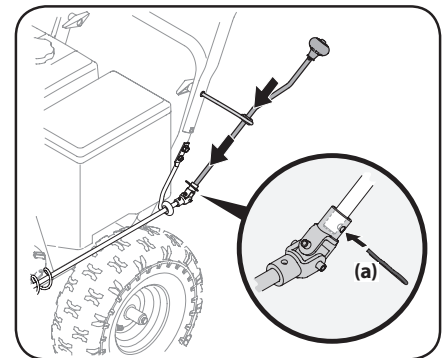

Figure 2-13
2. Insert unattached chute directional control assembly into eye bolt on left side of handle assembly. See Figure 2-13.
3. Line up holes in the end of unattached chute directional control assembly with holes in U-joint attached to lower chute directional control assembly. Insert cotter pin (a). See Figure 2-13. If necessary, bracket securing lower chute directional control assembly to chute base can be adjusted. Refer to Chute Bracket Adjustment in Service section on page 21.